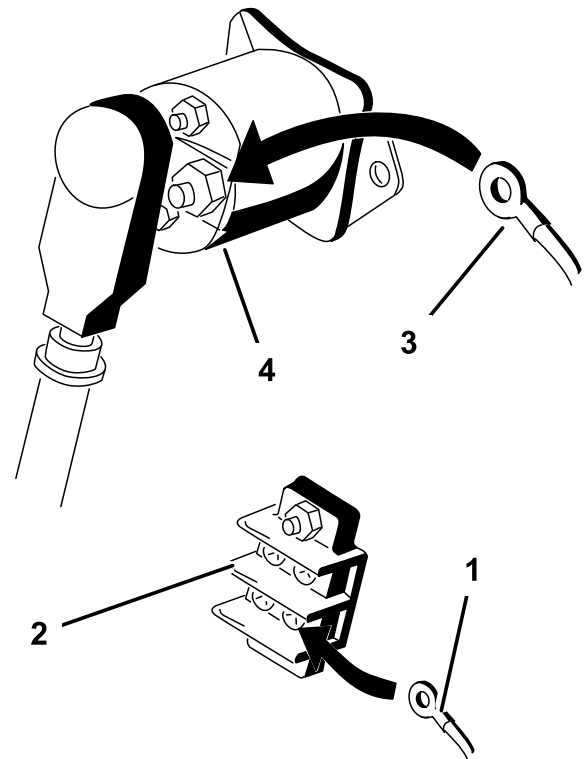

Figure 16
3. Connect the ring labeled ground on the black wire to the ground terminal block (Figure 16).